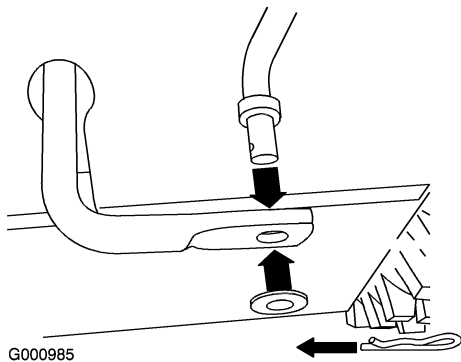

Figure 5
1. Remove the hairpin cotter and washer from the lower end of the speed control rod and insert the lower end of the rod into the lower link arm so that the bent end of the speed control rod faces rearward (Figure 5).